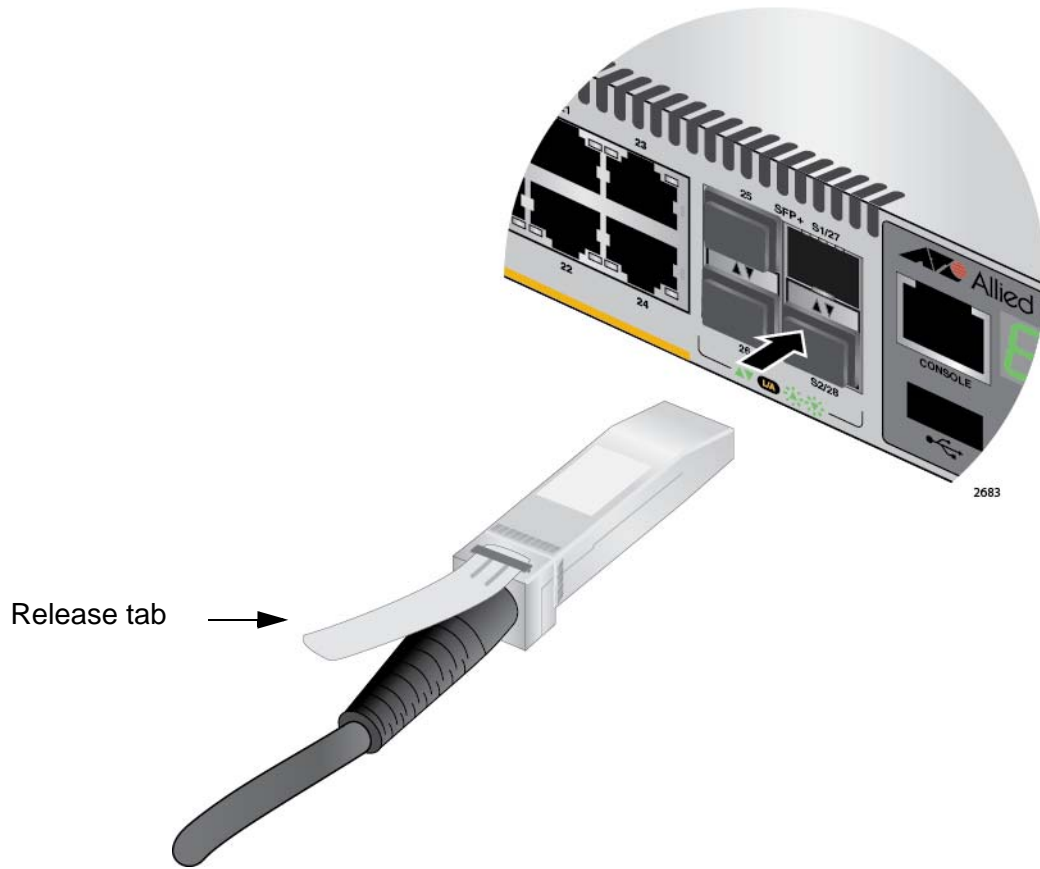

Figure 31. Installing the AT-StackXS/1.0 Transceiver in Slot S1
4. Position the transceiver with the release tab on top and slide the transceiver into the slot, as shown in Figure 31 on page 72.